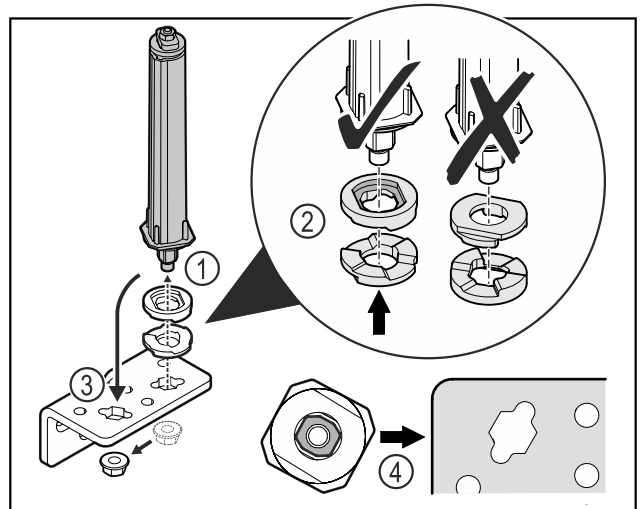

Fig. 35
- ▶ Loosen the nut and remove the door closing system Fig. 35 (1).
- ▶ Observe the correct alignment of the height adjustment washers Fig. 35 (2).
- ▶ Put the door closing system in the hinge and fix in place with the nut Fig. 35 (3).
- ▶ Observe the correct alignment of the door closing system when doing so Fig. 35 (4).